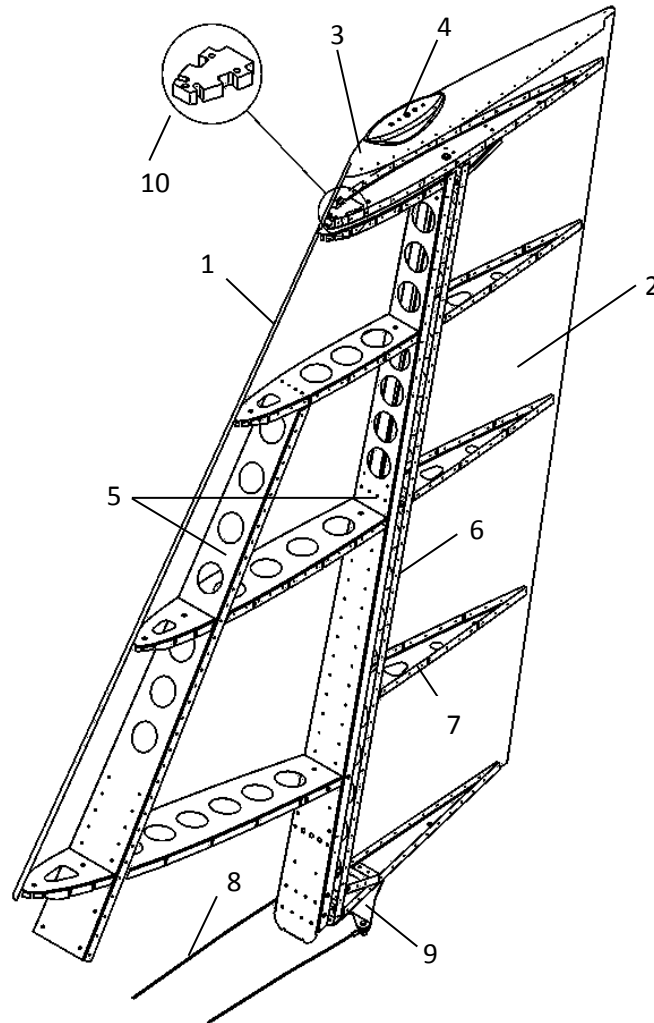

Figure 28: Vertical tail and rudder.
Refer to Figure 28. The vertical (1) stabiliser and rudder (2) consist of all-metal light alloy structures. The rudder horn (3) extends to the vertical stabiliser leading edge and has a composite tip on which navigation lights (4) and an aerial may be fitted. The vertical stabiliser consists of twin spars (5) with wrap-around stressed skin panelling. An attachment plate secures the vertical stabiliser's front spar to a bracket attached to the penultimate tail cone rib. The rudder consists of a spar (6) with formed sheet metal ribs (7) and sheet-metal skin. The rudder rotates / deflects around three hinges. Rudder control is effected by steel cables (8) attached to a control horn (9) on the bottom edge of the rudder and running (with a cross-over) to two control horns attached to the rudder pedal axles. Rudder mass balancing (10) is placed under the leading edge of the rudder horn, on the top rudder rib.